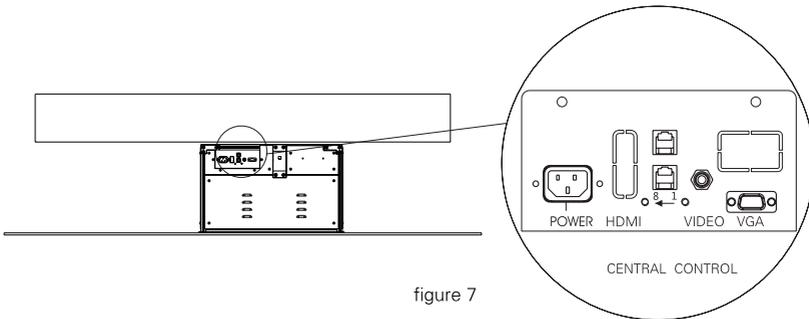
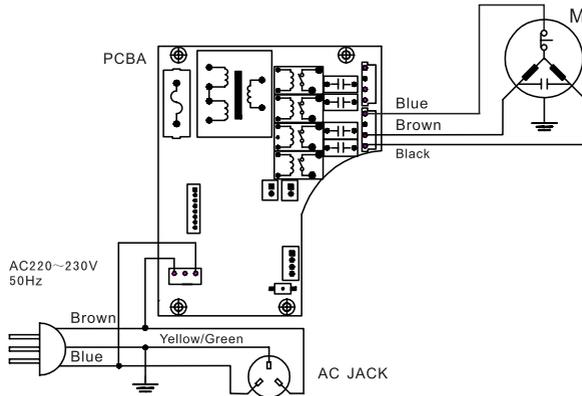

figure 7
figure 8
5. Figure 7 - connect the power cord and signal cord (see Circuit wiring diagram Figure 8 over the page)